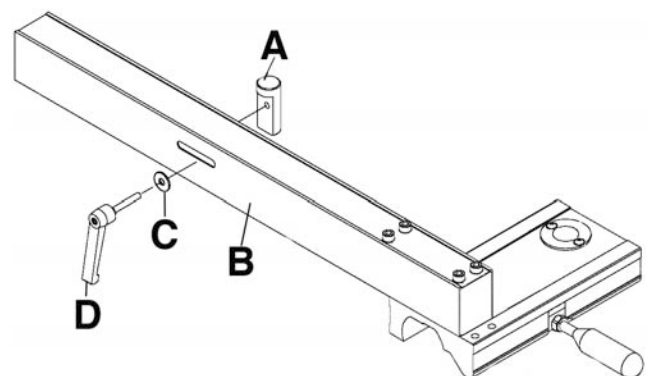

Figure 2
Resawing is a method of ripping a piece of lumber into thinner pieces as well as making book matched or slip matched panels. The curved resaw guide (A) Fig.2 is the best option for guiding wood through the bandsaw. The narrow line of contact makes it easy to compensate for a blade that "leads" or wanders off the cutting line when the stock is fed straight into it. You can get satisfactory results with this resaw guide "single point" method, but it demands very careful hand control. To install resaw guide;
- 1) Attach the resaw guide post (A) Fig.2 to the fence (B) using washer (C) and lock handle (D).